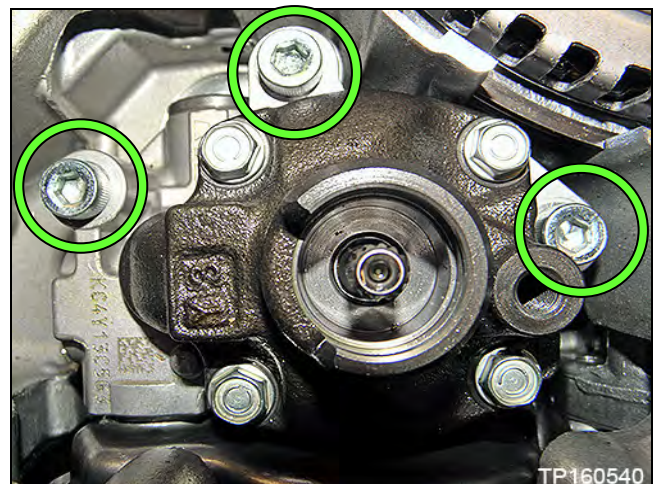

Figure 23C
b. Remove the three oil pump Allen-head bolts, and remove the oil pump (Figure 23C).